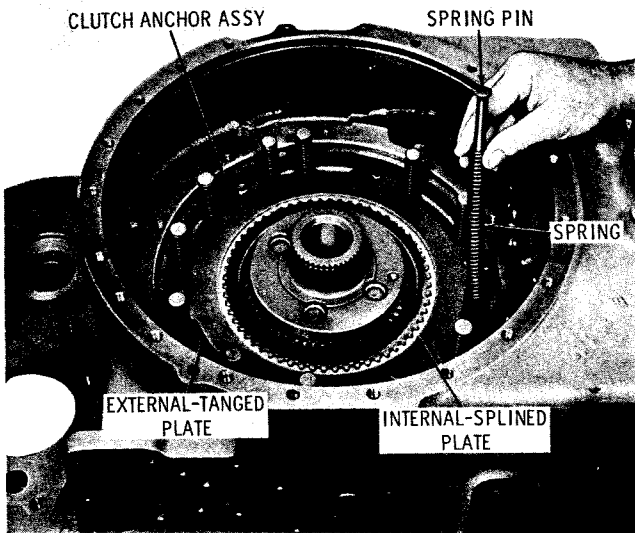

Fig. 7-19. Installing piston return springs and guide pins
(5) Starting with an external-tanged clutch plate, alternately install three external-tanged clutch plates and two internal-splined clutch plates onto the forward ring gear (fig. 7-19).
(6) Install the twelve piston return springs and spring guide pins into the holes in the clutch anchor assembly (fig. 7-19).
(7) If plug 39 (foldout 10,A) was removed from forward clutch piston housing 37, replace it. Apply nonhardening sealant onto the plug threads and install the plug into the